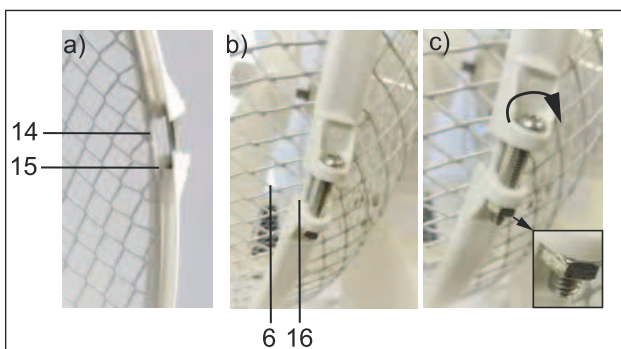

Fig. 17: Mounting of front protective grille
11. Pull the resulted ring onto the edge of the rear protective grille (14).
The edge of the protective grille must lie in the rear groove (15) of the fixing tape. Fig. 17 a).
12. Insert the front guard grille (6) into the front groove (16) of the fixing strip. Fig. 17 b).
13. Tighten the Phillips screw further clockwise using a Phillipps screwdriver. Fig. 17 c).
The blower intensity can be adjusted in 2 steps by pressing the push buttons 0-2 (17, fig. 17):